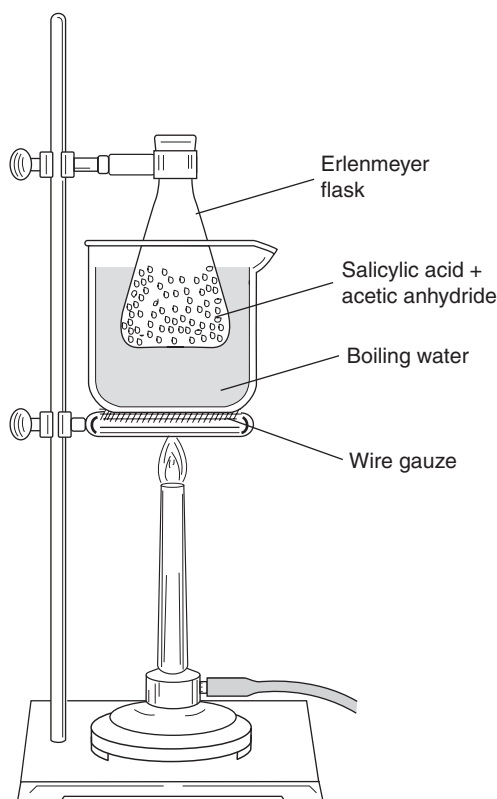

Figure 31.1
- D. Clamp the flask in a beaker of water supported on a wire gauze (Figure 31.1), or use a hot plate. Heat the water to about $75\text{ }^{\circ}\text{C}$, stirring the liquid in the flask occasionally with a stirring rod. Maintain this temperature for about 15 minutes, during which time the reaction should be complete.